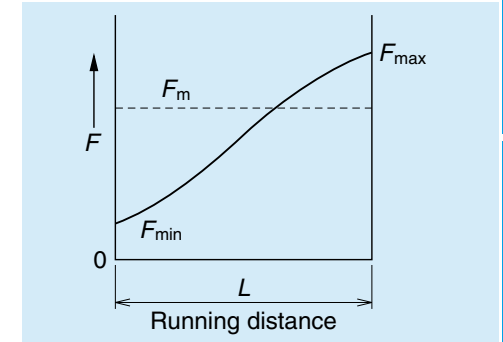

Fig. 2.4 Linear load change
**(2) When load changes almost linearly (Fig. 2.4)**